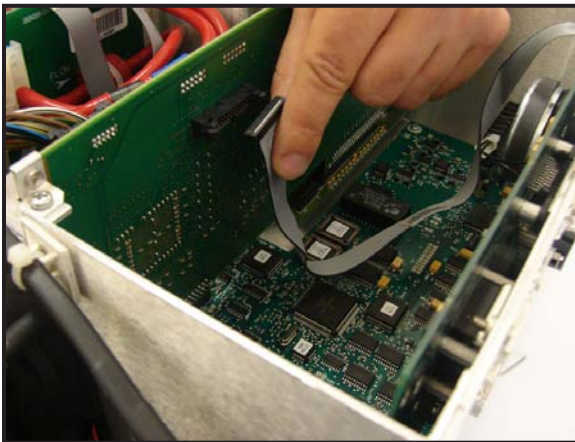

Figure 6-1
2. Disconnect external display ribbon cable from J9 on DSP/Display board (See Figure 6-1).
5. Disconnect the external display cable from J9 connector on the DSP/Display board (See Figure 6-1).